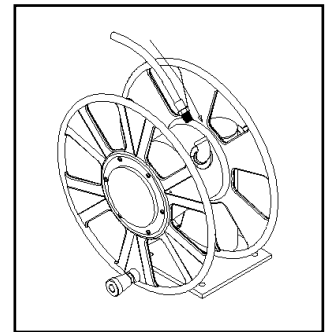

Figure 5
- 2) Thread male connector of supply line into 90° elbow located at the back of the reel. Tighten securely. Figure 5.